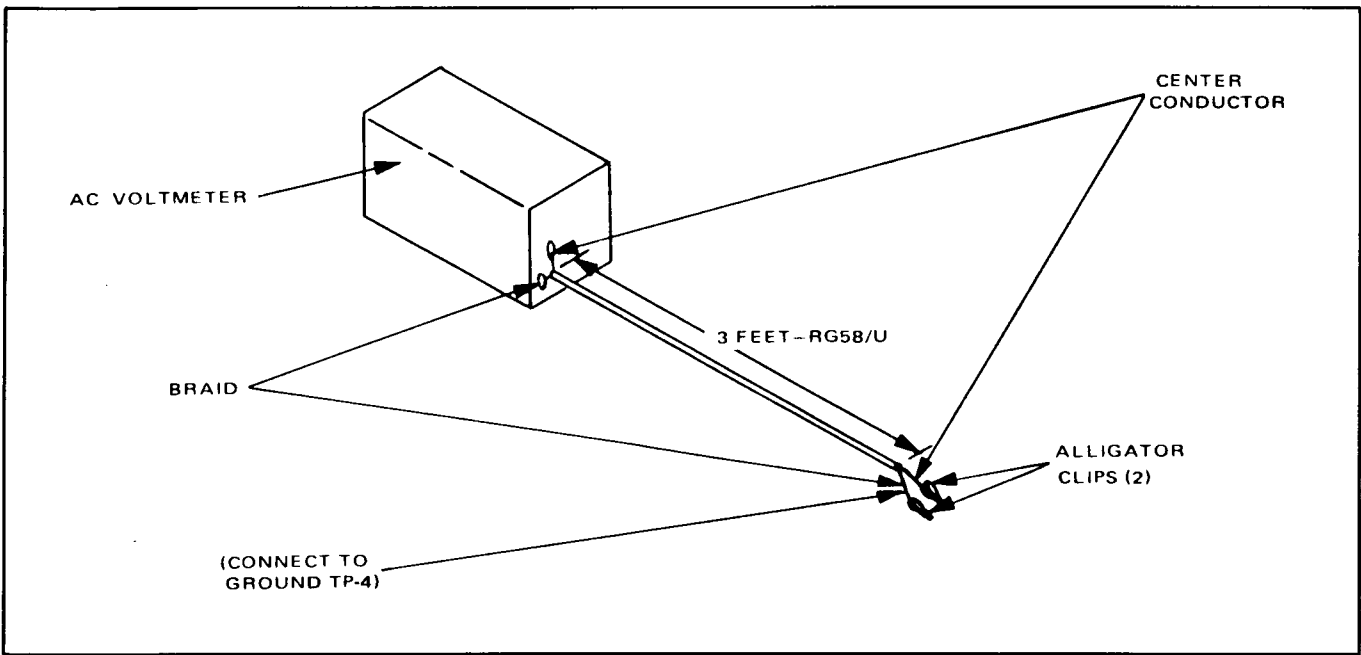

Figure 5-1. Special Test Cable for Use With AC Voltmeter
| Special Test Cable (for use with AC Voltmeter) | See Figure 5-1                      |
If a malfunction should occur in the PURC system, employ standard audio troubleshooting techniques to isolate faults to a certain stage or component. To aid in troubleshooting the PURC module, ac and dc voltages are given in Table 5-2. Measure the rms voltages using an ac voltmeter and 3-foot long coax cable (Figure 5-1). Schematics, parts lists, and assembly drawings of the PURC accessory components are included in this manual. For information regarding the associated recorder/reproducer, refer to the applicable Operation and Maintenance manual as follows:
4. Connect a scope or an ac voltmeter with the special test cable shown in Figure 5-1 to TP1; connect the ground lead to TP4 (Figure 5-2). (Note: The use of the ac voltmeter and special test cable is preferred, as a more accurate adjustment can be obtained.)